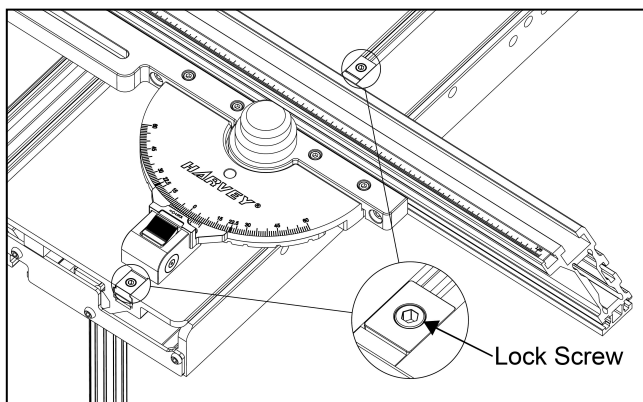

Fig.14
10. Slide the miter gauge bar into the T-slot on the sliding table top near the blade, as shown in **Fig. 14**. For full cutting capacity, the miter gauge bar should be positioned flush with the front edge of the sliding table. Use a 4mm wrench to turn the lock screw at the front and rear of the miter gauge bar **COUNTERCLOCKWISE** to lock the miter gauge bar in place.